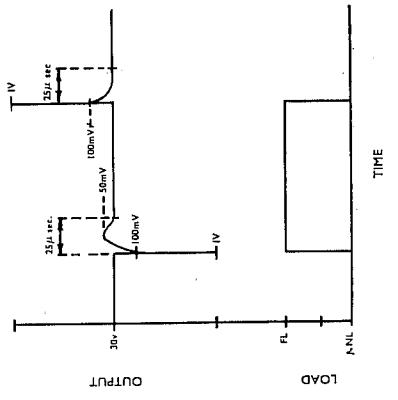

Fig. 1. Pulse Response
- ii) Transient response - The typical response to a pulsed load is shown in Fig. 1.